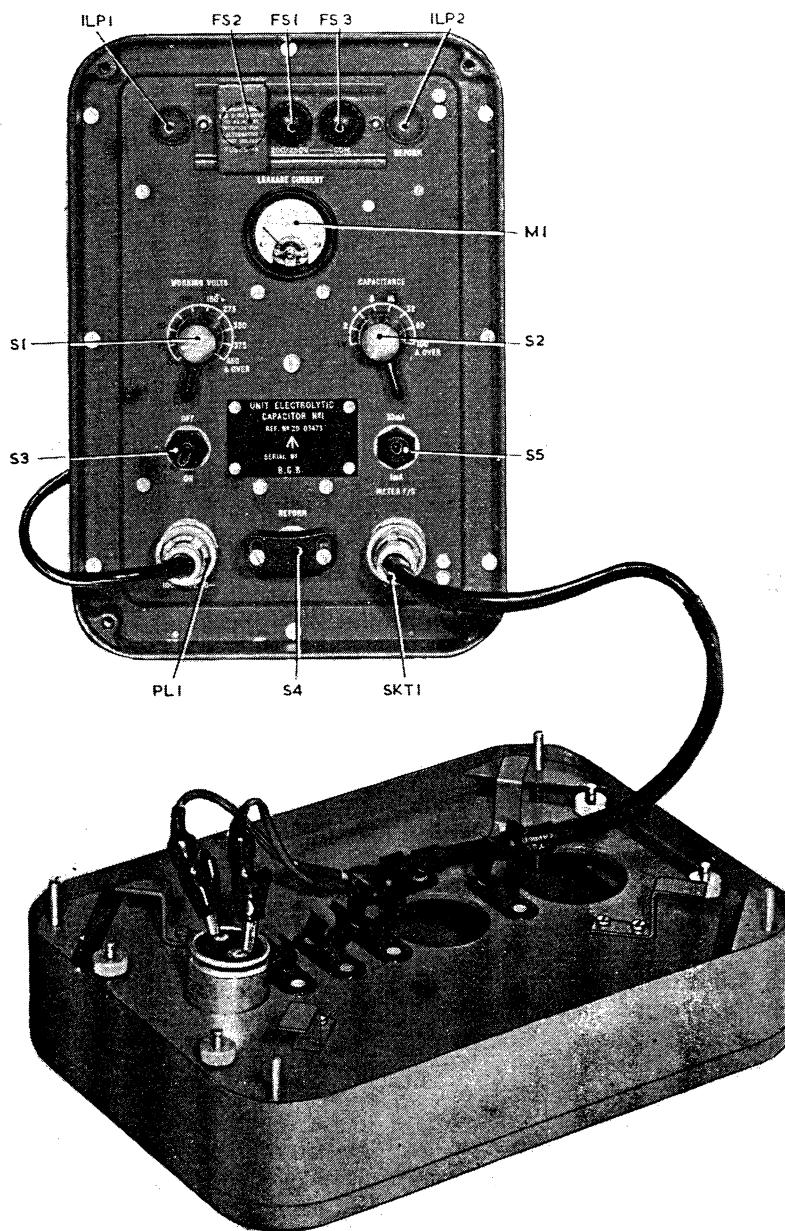

Fig. 1. Reforming unit, front view with lid removed
1. The reforming unit (*fig. 1*) is fully panclimatic. The circuit components are mounted either on a heavy-gauge aluminium front panel or on a small flanged chassis which is secured behind, and parallel to, the panel.
4. *Fig. 1* shows the complete unit ready for use, the lid assembly being shown in the foreground.